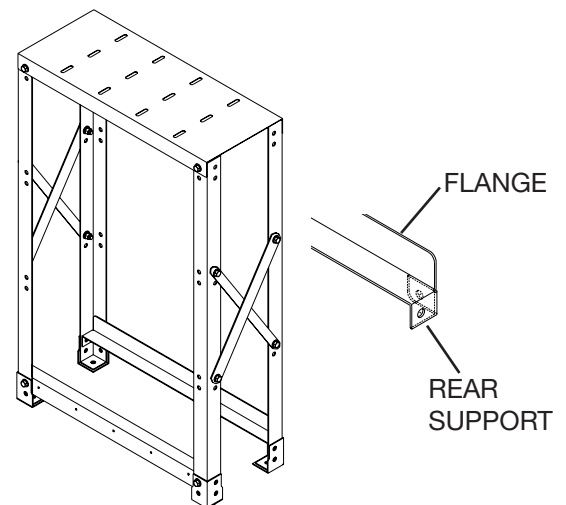

Figure 8.3c
- Loosely attach (finger-tight) lower tier front and rear supports in the holes second from the bottom of the rack as shown in Figure 8.3c. Front supports have holes to mount the seismic retainer, these holes point toward the front of the rack. Rear supports have a flange that keeps the blocs on the rack, see Figure 8.3c insert.